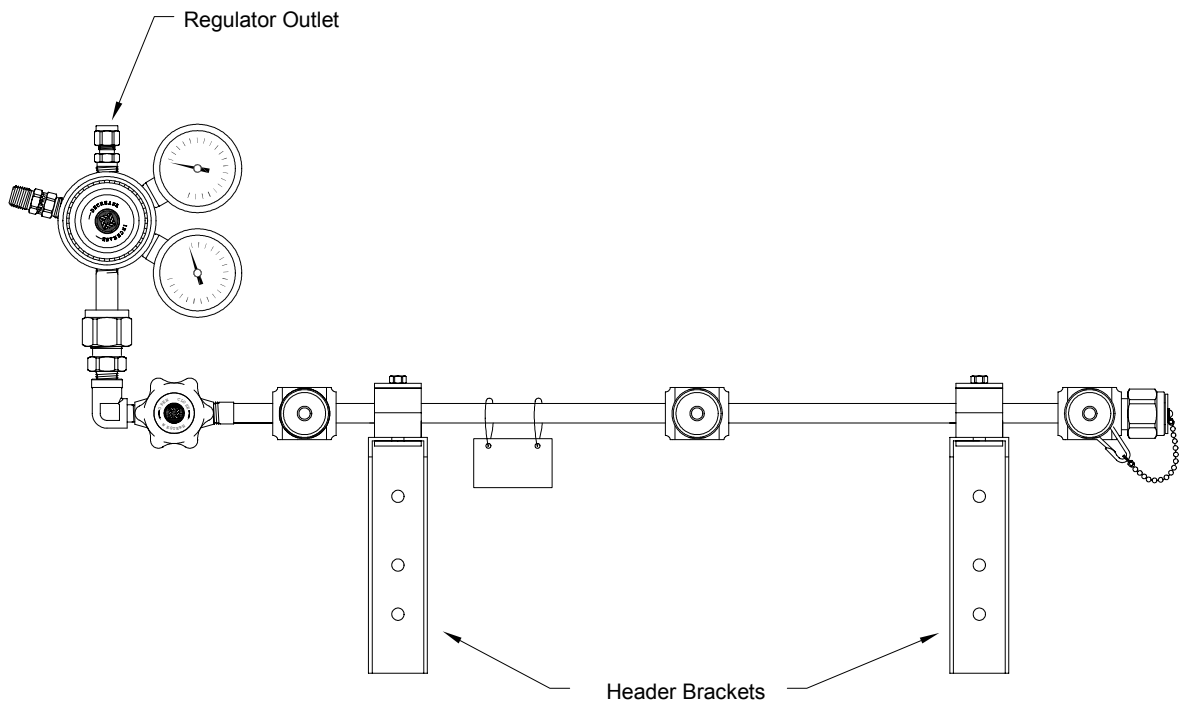

FIGURE 5
6. Mark the placement of any additional mounting brackets while keeping the header on a horizontal plane. (Figure 5)
8. Mark the mounting hole and install fasteners suitable for the type of wall construction. (Figure 5)
1. A 1/4" tube compression fitting is supplied with the control and is located at the outlet of the pressure regulator. Connect the pipeline system to this fitting. The fitting provided permits removal of the manifold for service. (Figure 5)